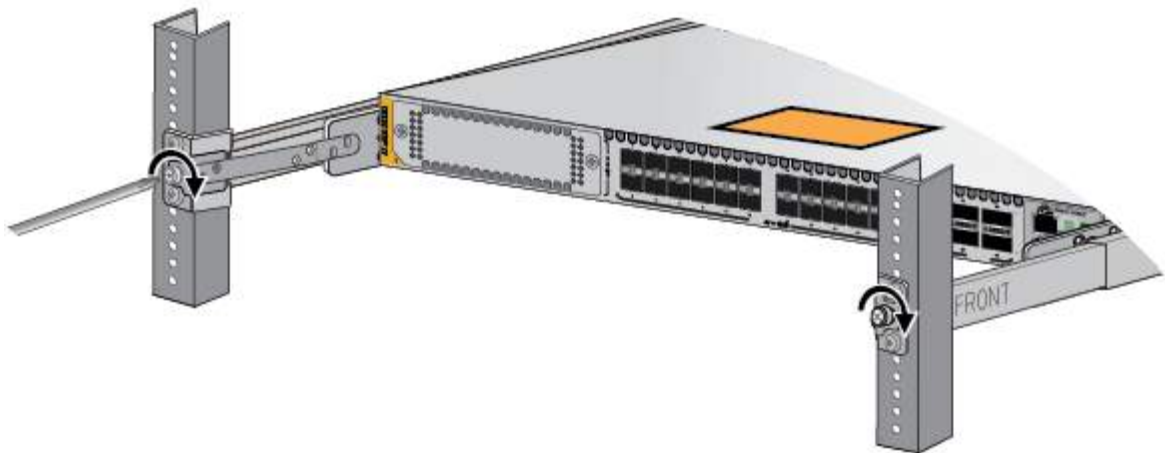

Figure 100. Tightening the Two Screws on the Fixed Brackets
4. Tighten the two screws on the fixed brackets to secure the switch to the equipment rack. Refer to Figure 100.